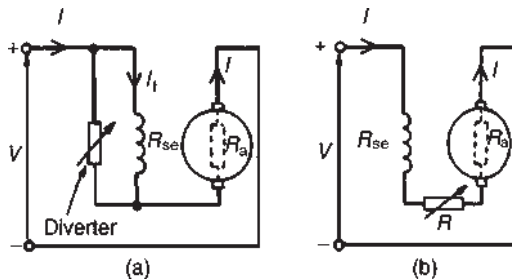

Figure 22.30
where k is a constant, V is the terminal voltage, R is the combined resistance of the armature and series field and Φ is the flux. Thus, a reduction in flux results in an increase in speed. This is achieved by putting a variable resistance in parallel with the field winding and reducing the field current, and hence flux, for a given value of supply current. A circuit diagram of this arrangement is shown in Fig. 22.30(a). A variable resistor connected in parallel with the series-wound field to control speed is called a **diverter**. Speeds above those given with no diverter are obtained by this method. Problem 29 below demonstrates this method.
- (b) Speeds below normal are obtained by connecting a variable resistor in series with the field winding and armature circuit, as shown in Fig. 22.30(b). This effectively increases the value of
With the 0.2Ω diverter in parallel with R_{se} (see Fig. 22.30(a)), the equivalent resistance,
$$I_1 \text{ (in Fig. 22.30(a))} = \left(\frac{0.2}{0.2 + 0.05} \right) I = 0.8 I$$
With reference to Fig. 22.30(b), at 800 rev/min,